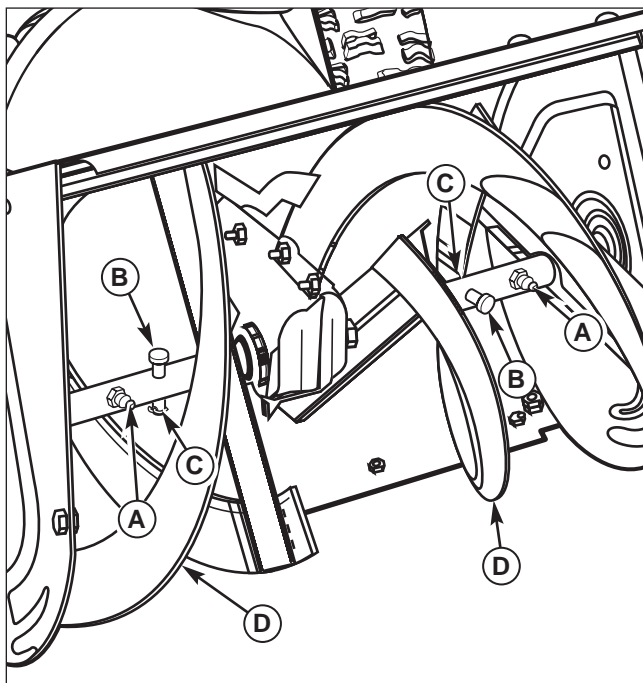

Figure 19. Lubricating the Auger Shaft Assembly
1. Remove cotter pin (C, Figure 19) and shear pin (B).
2. Use a grease gun and squirt several shots of grease into grease fitting (A).
3. Rotate auger assembly (D) several times to distribute the grease evenly. Repeat step 2.
4. Reinstall shear pin (B) and cotter pin (C).